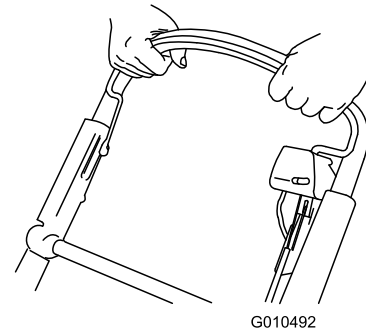

Figure 24
2. Hold the blade control bar against the handle (Figure 24).